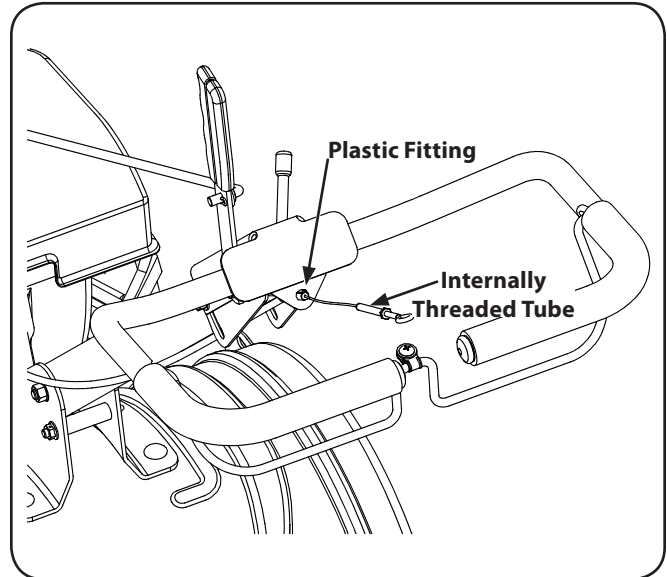

Figure 3-4
3. Push the cable through the hole in the center of the handle and snap into the plastic fitting. See Fig. 3-4.